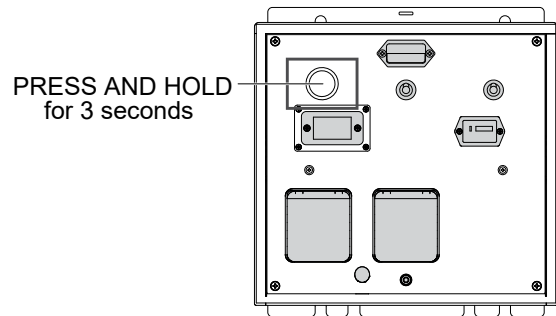

Figure 23. Power Switch OFF
2. Press and hold the power switch for three seconds to turn off the battery (Figure 23).